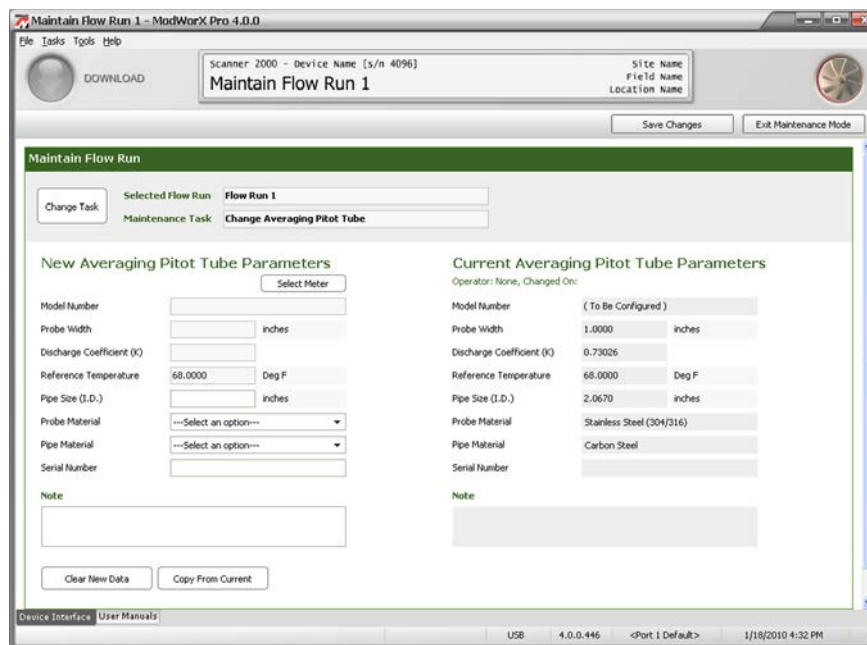

Figure 11.5
- Click **OK** to save your selections and return to the Maintain Flow Run screen (Figure 11.5, page 153).